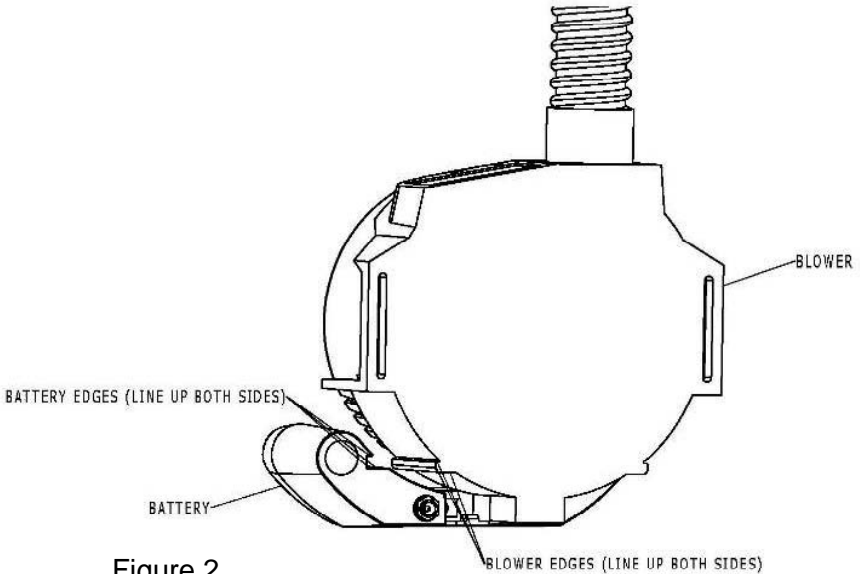

Figure 2
1. Line up the edges as shown (fig. 2).